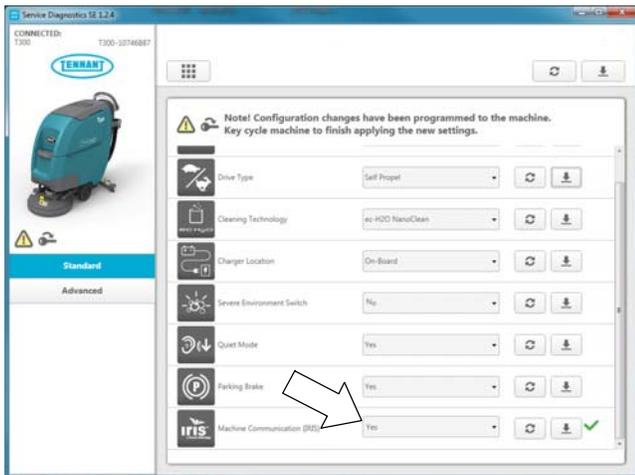

Fig. 37
- From the machine configuration page, select “Yes” from the **IRIS** drop-down menu to configure the machine with telemetry technology (Figure 37). Then press the down arrow button to program the machine. A green check will appear next to the down arrow button when programmed.